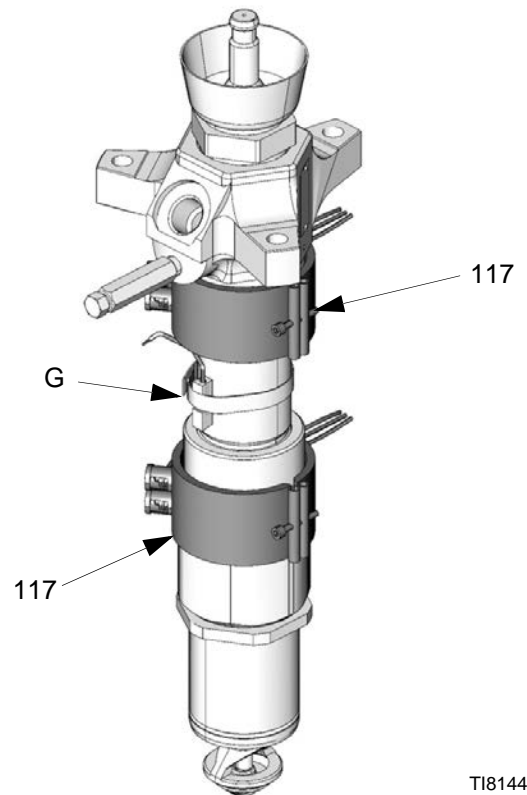

FIG. 24
3. Disconnect the electrical wires from heater band (117). See FIG. 24. Label wires as they are removed.
4. Loosen the clamp holding sensor on pump (G). See FIG. 24.